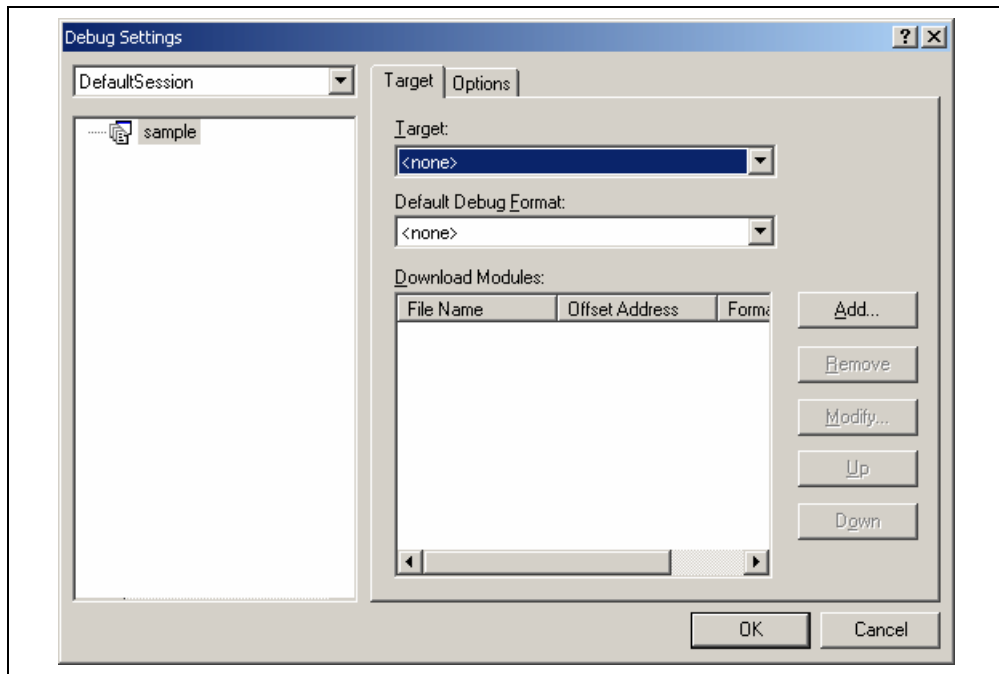

Figure 4.13 [Debug Settings] Dialog Box ([Target] Page)
1. Select [Debug settings] from the [Options] menu to open the [Debug Settings] dialog box (see figure 4.13).